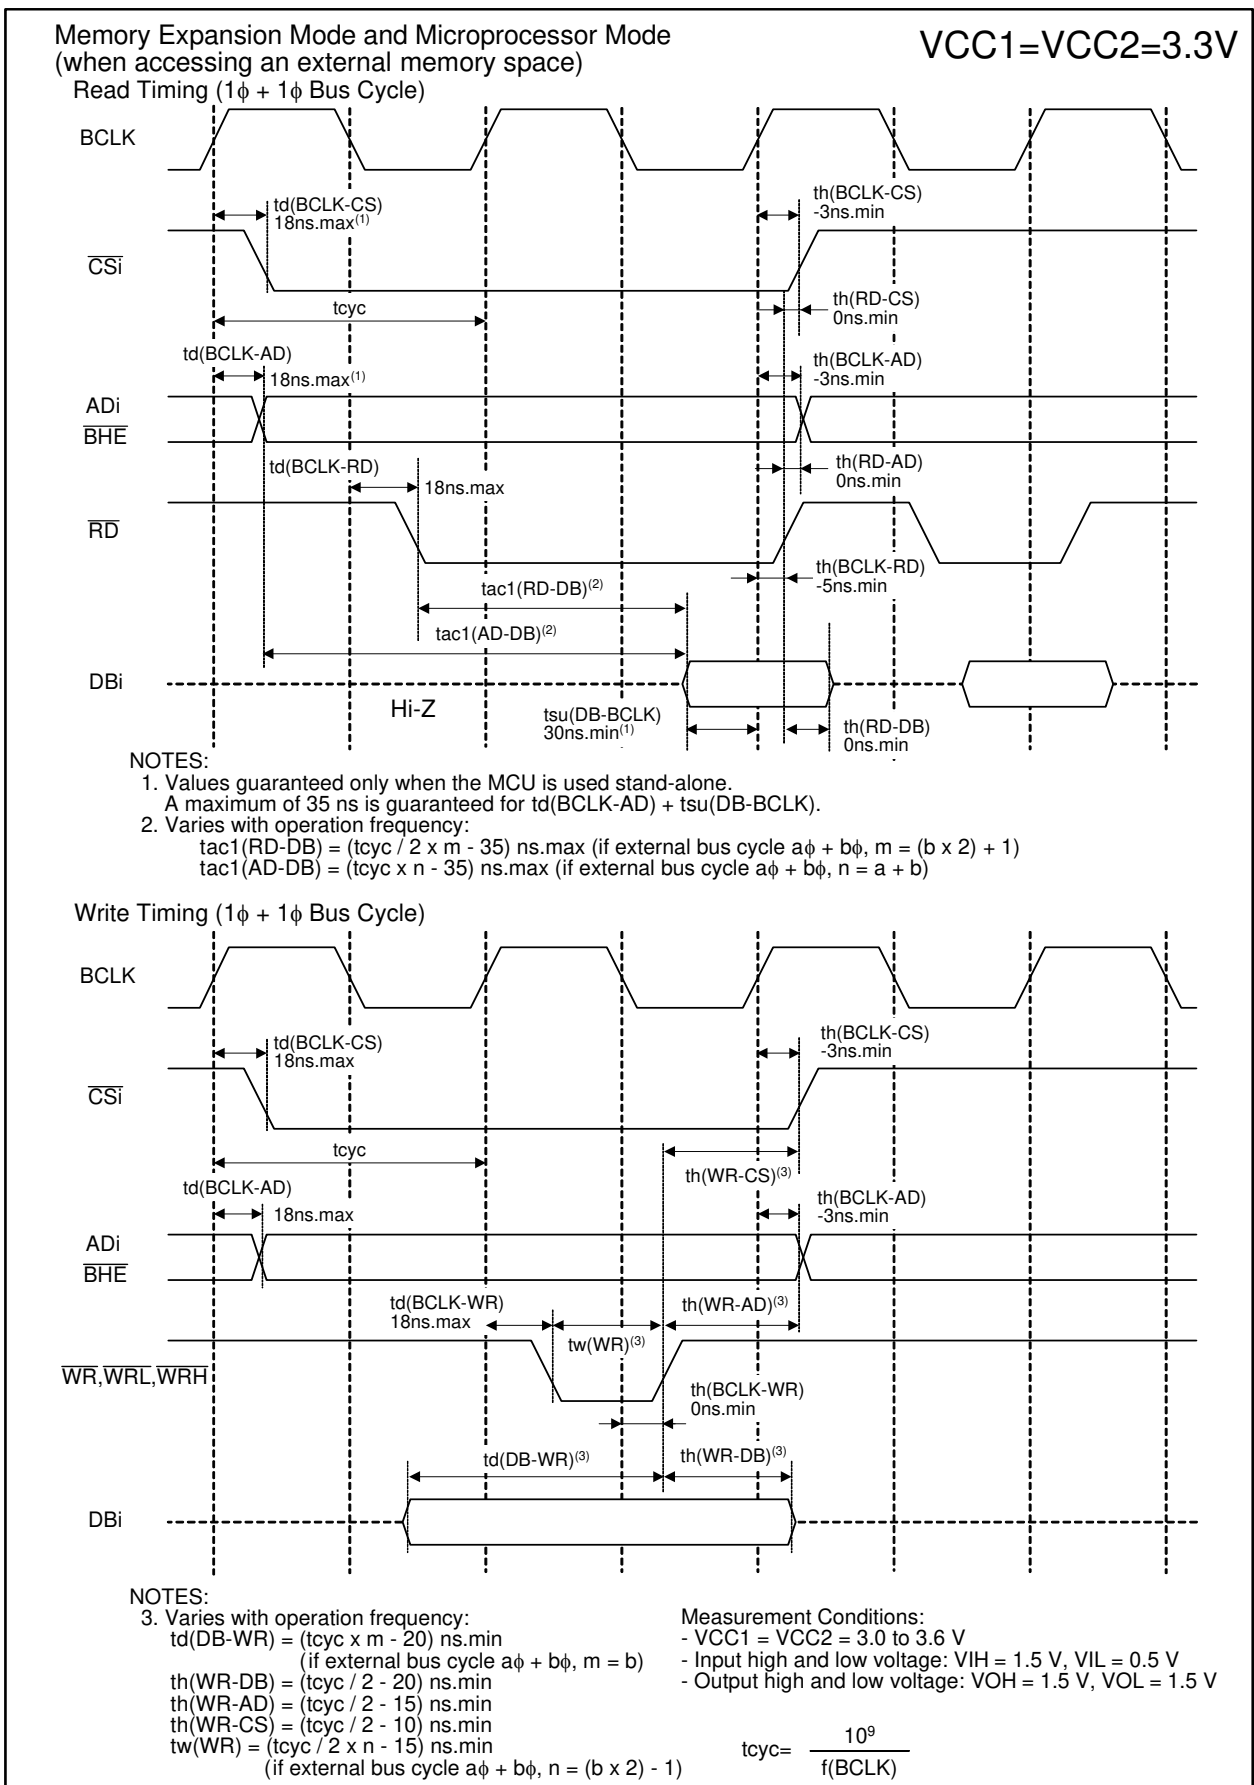

Figure 5.9 VCC1 = VCC2 = 3.3 V Timing Diagram (3/4)
73	• Figure 5.9 $V_{cc1}=V_{cc2}=3.3V$ Timing Diagram (3) \overline{NMI} input diagram added